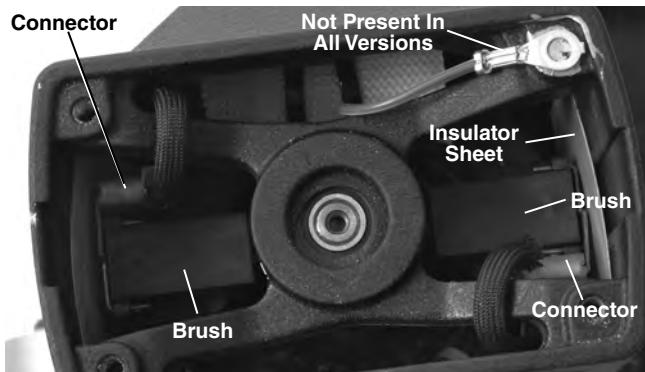

Figure 26 – Brush Placement - Motor Cover Removed
3. Using a pair of pliers, pull the motor brush housings straight out. Disconnect the electrical connector. (See *Figure 26*.)